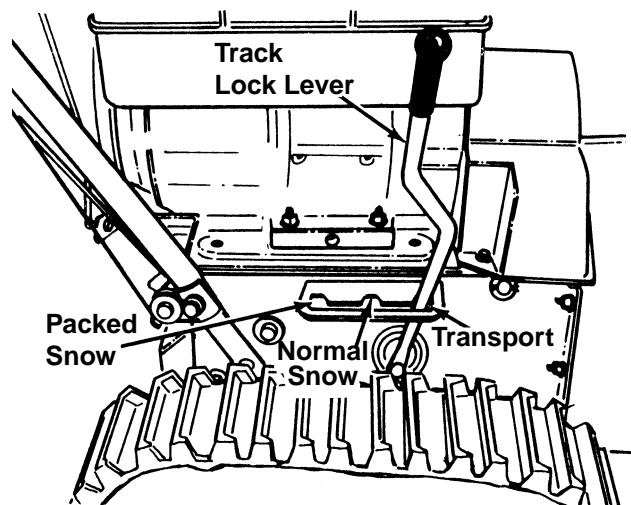

Figure 15
To check the adjustment of the traction drive clutch and shift lever, move the track lock lever to the transport position (see figure 15) and the shift lever all the way forward to sixth (6) position. With the traction drive clutch released, push the snow thrower forward to check that the tracks turn.
The track lock lever is located on the right side of the snow thrower and is used to select the position of the housing and the method of track operation. See figure 15. Move the lever to the right, then forward or backward to one of the three positions.